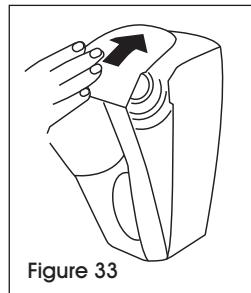

Figure 33
6. Close dispenser. (See Figure 33)